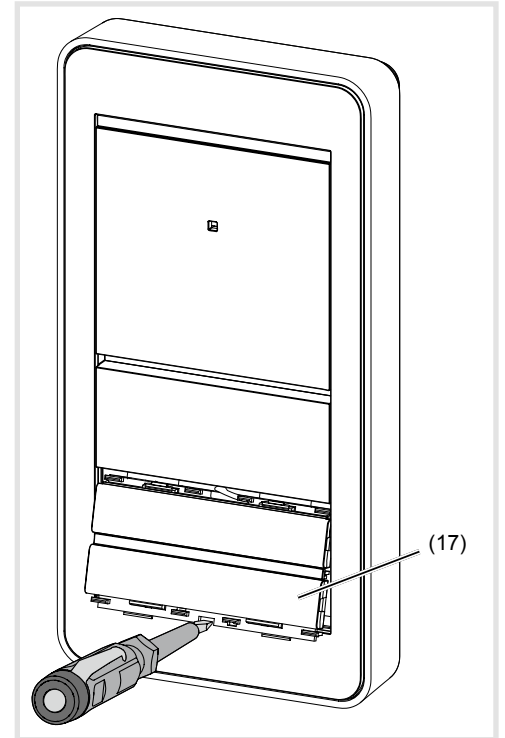

Figure 16: Dismantling the call push-button module cover
- Use a screwdriver to lever open the push-button module cover and remove it from the front (figure 16).